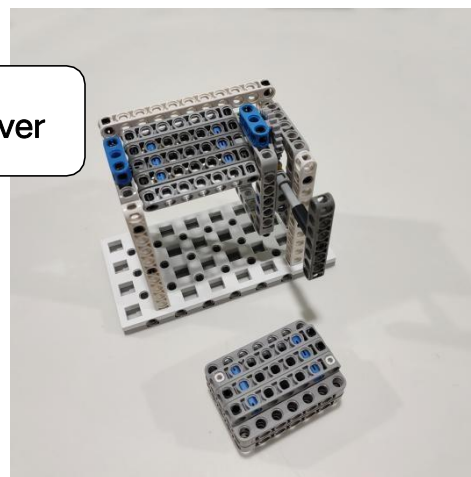

Figure 3-3-2 Finished Position 1
3.3.2 30 points are granted when the robot spins the lever to detach the ore from the mine model as shown in figure 3-3-2. Additional 40 points will be given when the robot brings back the ore to the base.